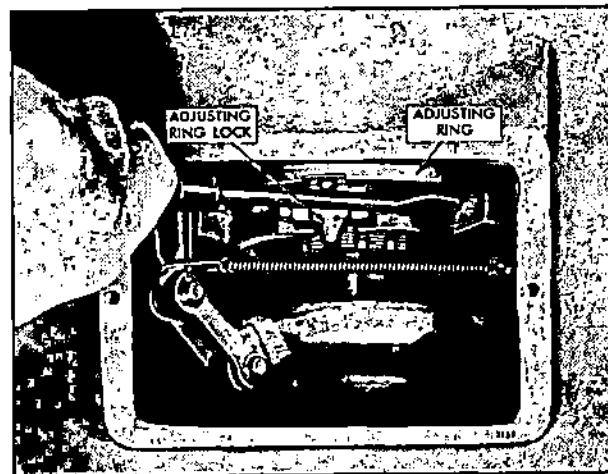
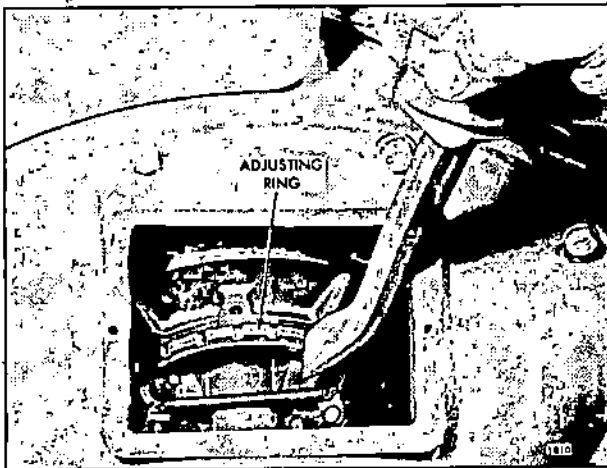

Fig. 9 - Power Take-Off Assembly Showing 14" Diameter Clutch Adjustment Ring
Fig. 8 - Power Take-Off Showing Typical 8" and 11-1/2" Diameter Clutch Adjustment Ring
4. Remove the clutch adjusting ring spring lock on the 8" and 11-1/2" diameter clutches. Turn the adjusting ring counterclockwise to tighten the clutch as shown in Fig. 8. On the 14" diameter clutches, turn the adjusting ring lock up out of the splined groove. Turn the adjusting ring clockwise to tighten the clutch as shown in Fig. 9. When properly adjusted, the approximate pressure required at the outer end of the hand lever to engage the various clutches is